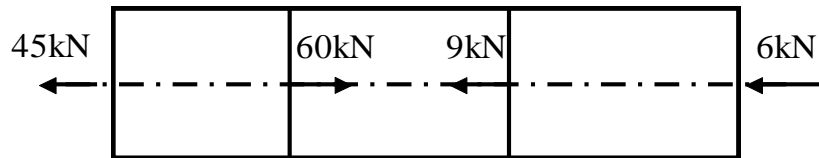

Fig. 1(b)
- b) A steel bar 600mm^2 cross-sectional area is carrying loads as shown in fig. 1(b). Determine the total elongation of the bar. Take $E = 210 \text{ GPa}$. **7**